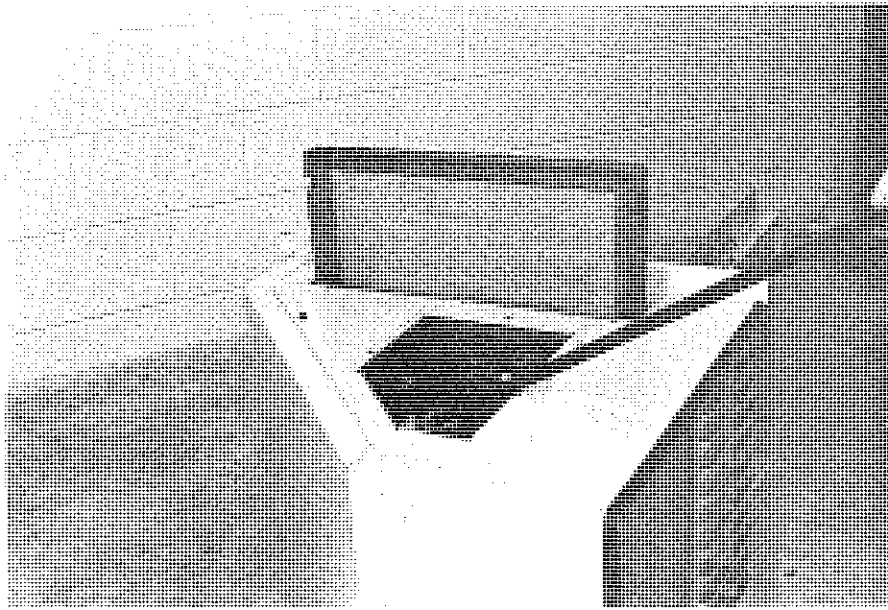
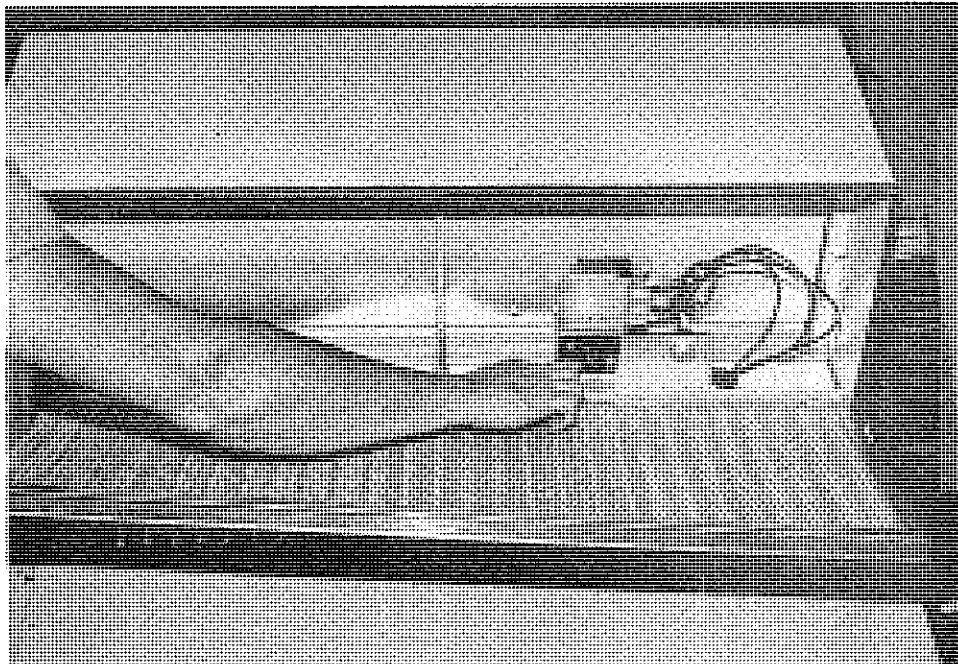

FIGURE 9
FIGURE 10
- 13.) REMOVE FILTER ACCESS AND CONTROL ACCESS PANELS ON SIDE OF INTAKE HOOD OF ECONOMIZER ASSEMBLY. (SEE FIGURE 9) REMOVE MOISTURE ELIMINATOR UNDER INTAKE HOOD OF ECONOMIZER. (SEE FIGURE 10)
- A.) LOCATE THE MINIMUM POSITION LEVER ON THE MOTOR (SEE ENCLOSED MANUFACTURERS LITERATURE) LOCATED ABOVE WIRING TERMINALS, (FIGURE 9).
- C.) CYCLE THE MINIMUM POSITION LEVER (FACTORY SET FOR 0% FRESH AIR) 0 TO FULL OPEN. (SEE FIGURE 9) THROUGHOUT CHECKOUT PROCEDURE OBSERVE OPERATION OF DAMPER TO INSURE THERE IS FREE, UNOBSTRUCTED OPERATION THROUGH THE ENTIRE RANGE OF DAMPER TRAVEL. THEN ADJUST THE DAMPER MINIMUM OPEN POSITION TO MEET LOCAL CODES OR APPLICATION REQUIREMENTS. (SEE EXAMPLE BELOW)
- E.) LOCATE THE ENTHALPY CONTROL ADJUSTMENT KNOB ON ENTHALPY CONTROL IN ECONOMIZER INTAKE HOOD (FIGURE 10).
- F.) ADJUST THE ENTHALPY CONTROL TO POSITION A,B,C,D, TO ACHIEVE THE MAXIMUM COMBINATION OF TEMPERATURE AND HUMIDITY ACCEPTABLE FOR THE INSTALLATION AS PER THE CHART IN MANUFACTURERS ENCLOSED INSTRUCTIONS. (THE SUGGESTED SETTING IS BETWEEN A & B 70°DB @ 55 PERCENT RH. IT IS FURTHER RECOMMENDED TO ALWAYS SET THE CONTROL AT C OR ABOVE (FIGURE 10)).
- G.) SWITCH THE THERMOSTAT FAN CONTROL TO AUTOMATIC AND POSITION THE HEAT COOL SWITCH TO COOL. ADJUST THE THERMOSTAT TEMPERATURE TO ENGAGE THE FIRST STAGE OF COOLING ONLY (Y). THIS WILL CAUSE THE DAMPERS TO FULLY OPEN TO PROVIDE 100% OUTSIDE AIR PROVIDED OUTSIDE AIR ENTHALPY IS SUFFICIENTLY LOW. IF ENTHALPY IS TOO HIGH FOR ECONOMIZING, LOW ENTHALPY CAN BE SIMULATED BY TEMPORARILY REMOVING AND JUMPING LEADS ON TERMINAL 2 AND 3 OF ENTHALPY CONTROL TOGETHER. THIS WILL ALSO CAUSE THE ECONOMIZER DAMPER TO MODULATE AWAY FROM MINIMUM POSITION (BE SURE TO PROPERLY RECONNECT LEADS AT END OF CHECKOUT PROCEDURE).